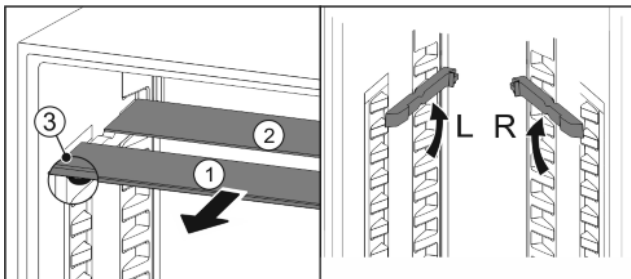

Fig. 17
- Pull the glass panels out Fig. 17 (1) from the front, one at a time.
- ▷ Glass panel Fig. 17 (1) with pull-out stoppers is at the front.
- ▷ Stoppers are pointing down Fig. 17 (3).